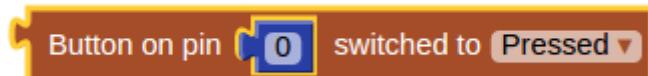

Figure 146: Button Block
*Button on pin [] switched to* (Figure 146):